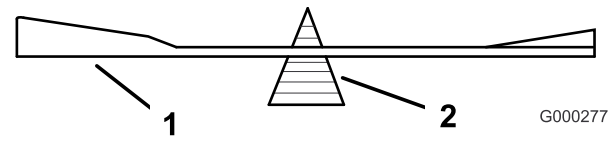
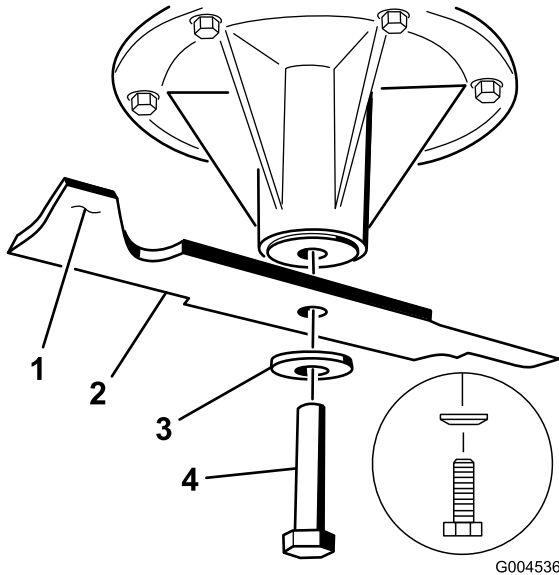

Figure 100
Figure 101
2. Check the balance of the blade by putting it on a blade balancer (Figure 100). If the blade stays in a horizontal position, the blade is balanced and can be used. If the blade is not balanced, file some metal off the end of the sail area only (Figure 101). Repeat this procedure until the blade is balanced.
1. Install the blade onto the spindle shaft (Figure 101).
2. Install the spring disk and blade bolt. The spring disk cone must be installed toward the bolt head (Figure 101). Torque the blade bolt to 85-110 ft-lb (115-150 N-m).